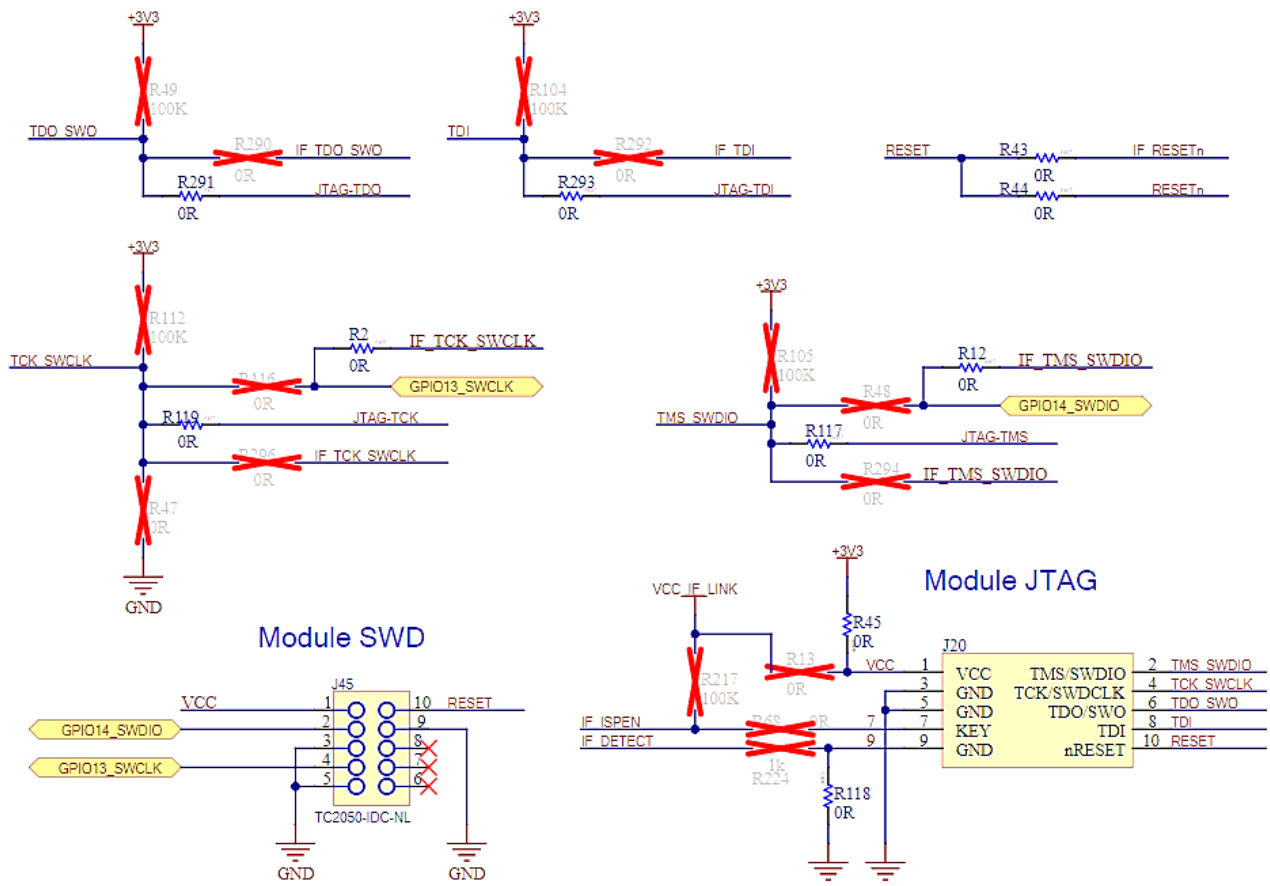

Figure 19: SWD/JTAG multiplex connections
- To enable the **SWD** interface on the **J20** JTAG connector, remove resistors **R2** and **R12**, and install 0 Ω , 0402 resistors on **R48** and **R116**, as shown in Figure 19.
The SWD/JTAG multiplex connections and default jumper positions are shown in Figure 19.